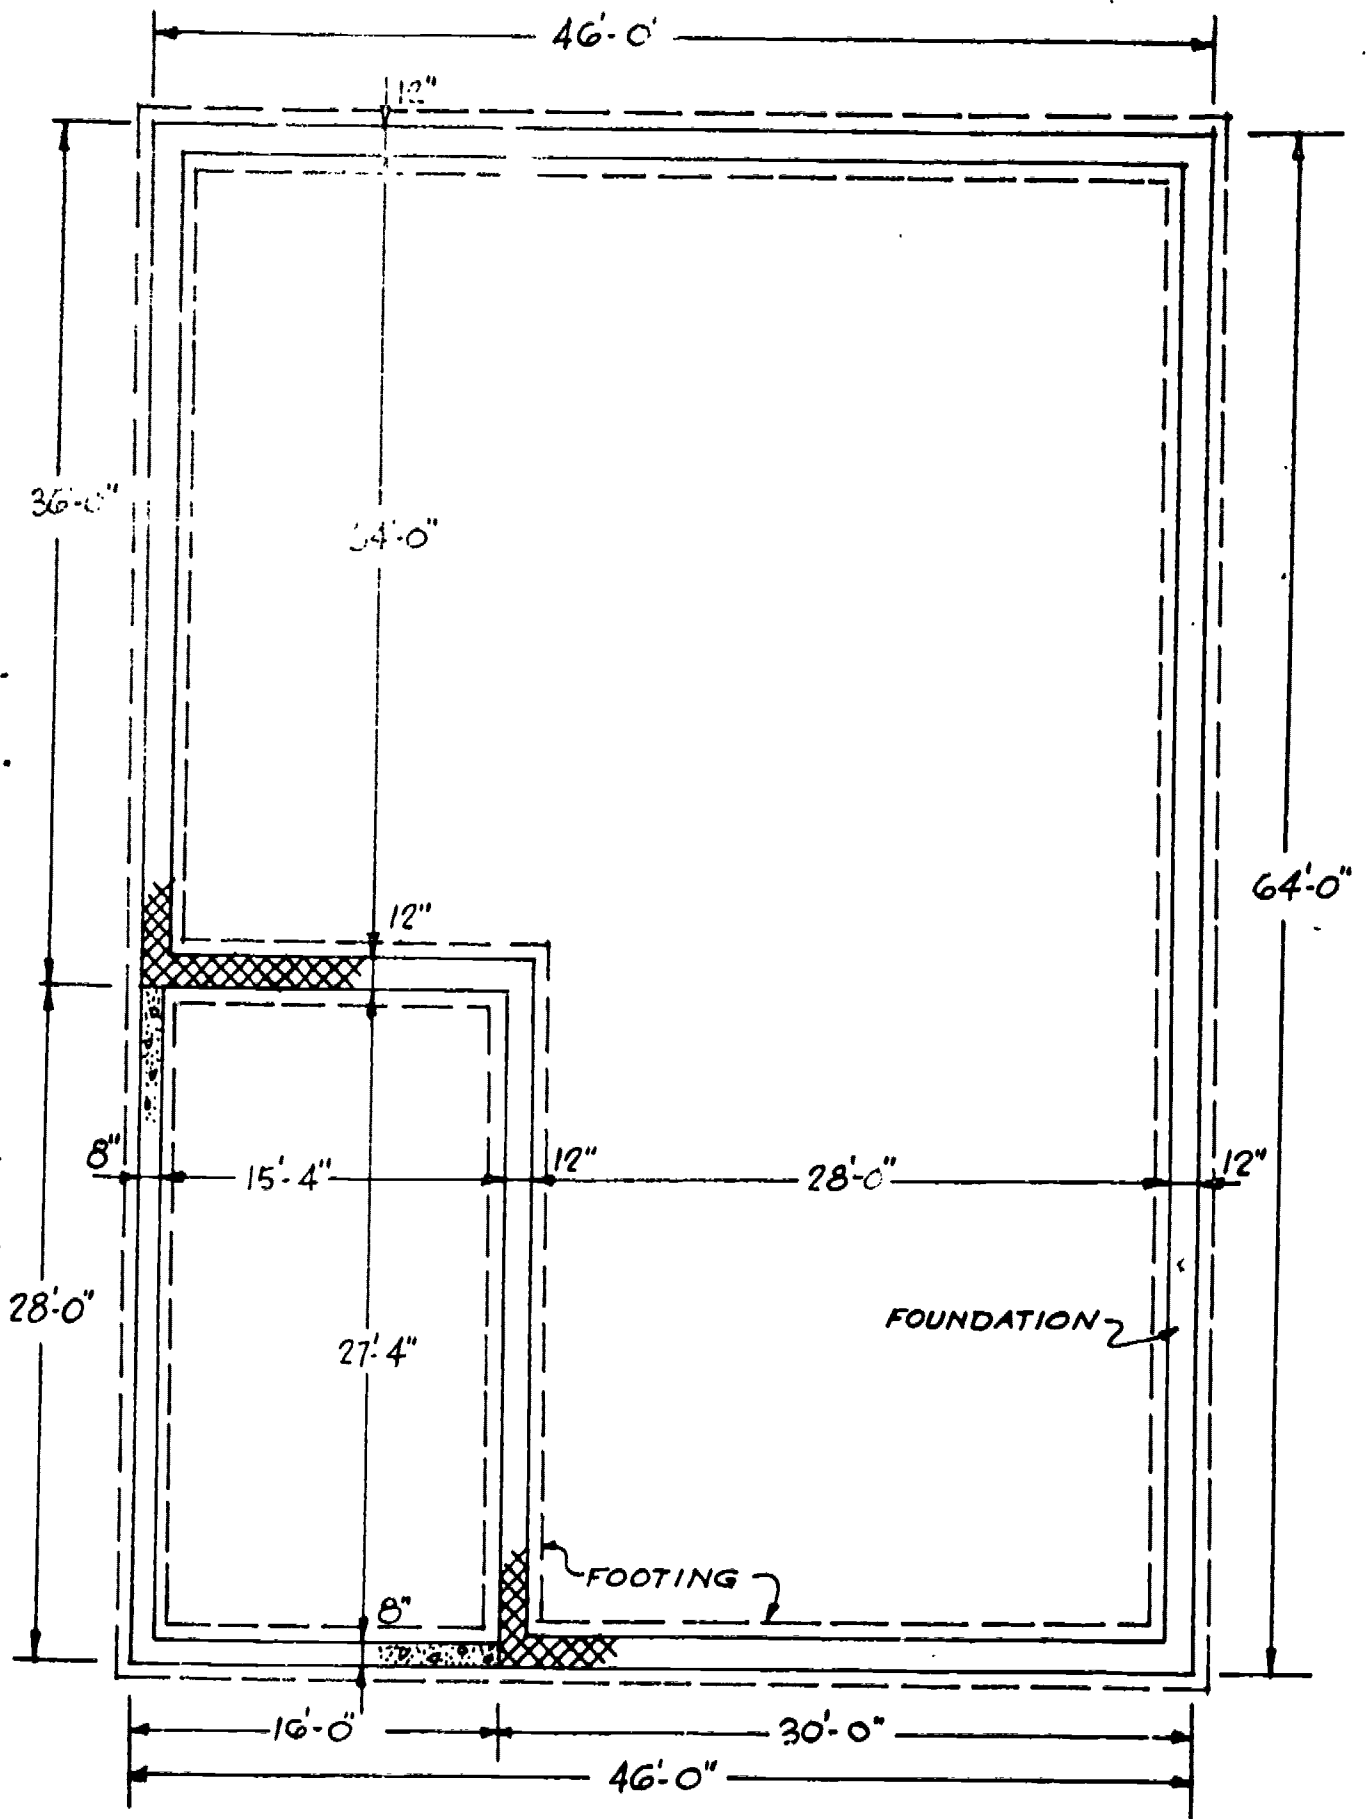

Figure 1
4. Using figure 1 of this task package, determine the quantity of blocks needed for the foundation wall using stretcher bond.
5. Calculate with the dimensions shown on the drawing; the height elevation is to be 8' for the figure 1 foundation.
5. Determine the quantity of continuous metal ties needed for the plan shown on figure 1 of this task package. The answer should be in total lineal feet.